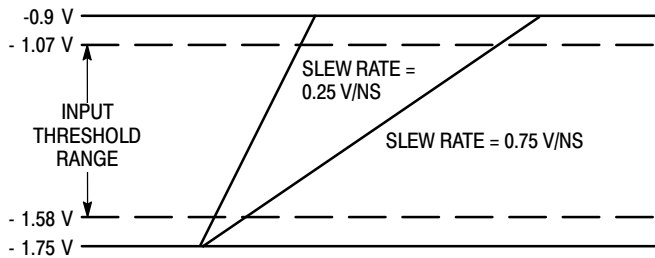

Figure 4. ECL Dispersion Test Input Conditions
6. Refer to figure 4 and note that the input is at 850mV ECL levels with the input threshold range between the 20% and 80% points. The delay is measured from the crosspoint of the input signal and the threshold value to the crosspoint of the Q and \bar{Q} output signals.
Figure 4 and Figure 5 define a range of input conditions which incorporate varying input slew rates and input voltage overdrive. For input parameters that adhere to these constraints the propagation delay can be described as: